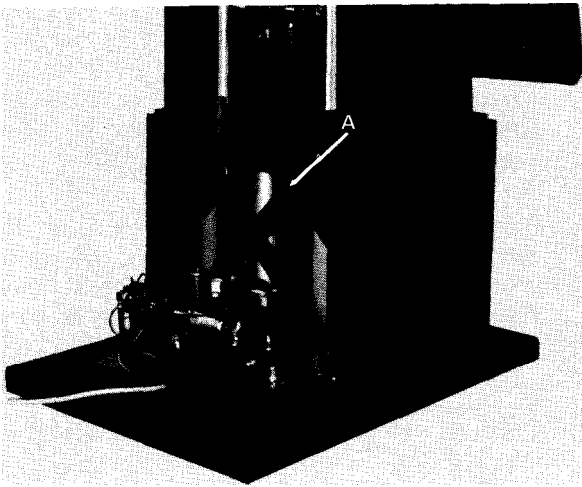

Fig. 21
- 2) Remove "X" brace by removing (4) bolts, (Item A, Fig. 21) with 9/16" wrench.
- 29) Replace "X" brace with (4) 3/8" bolts as shown Fig. 21.